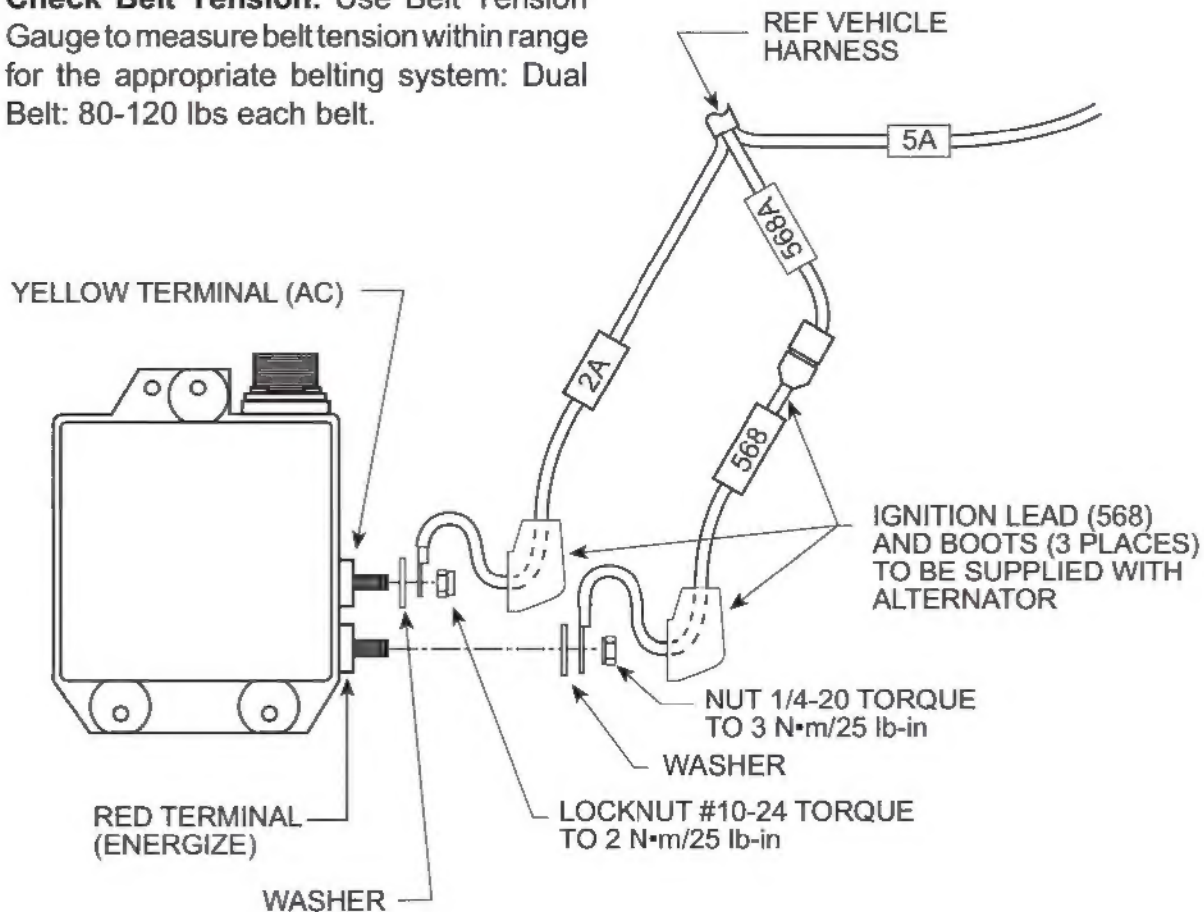

Figure 12-7.
Refer to Figure 12-7 for the following steps.
F. NEIHOFF 100 AMP ALTERNATOR TESTING (Figure 12-7 through 12-9.
4. **Check Ignition Circuit.** If alternator is not charging, check for voltage at the alternator energize terminal (Red Terminal). Refer to Figure 12-7 for energize terminal location on the outside of the regulator. Look for 24V nominal.